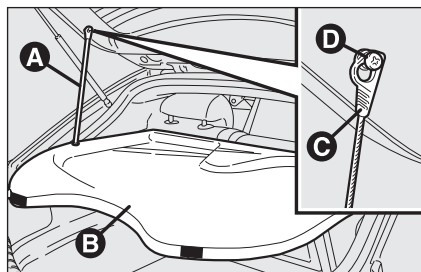

fig. 74
- ☐ release both rod ends **A-fig. 74** supporting the rear parcel shelf **B** by removing the eyelets **C** from pins **D**;